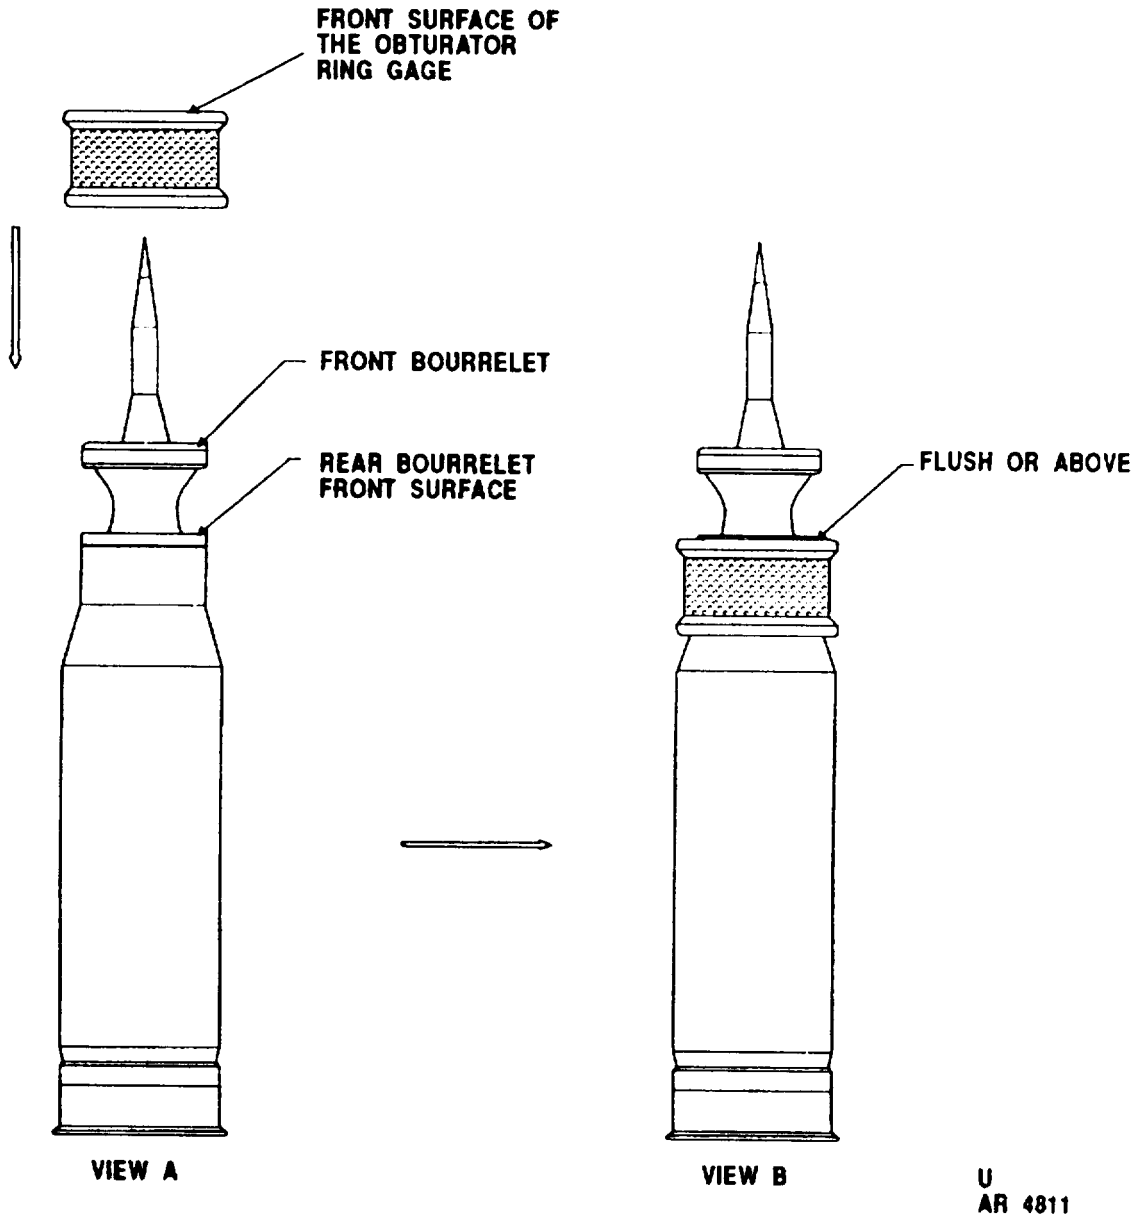

Figure 4-8. Obturator ring gage.
- (1) Remove cartridge from shipping container.
- (2) Place cartridge in vertical position on felt padded work table (protect primer) with top pointed upward.
- (3) Wipe cartridge with a clean cloth.
- (4) Pass the obturator ring gage over the forward bourrelet and seat the gage gently on the obturator (fig. 4-8, view a).
(5) Cartridge is acceptable if front surface of rear bourrelet is flush or above flush with front surface of ring gage (fig. 4-8, view b).